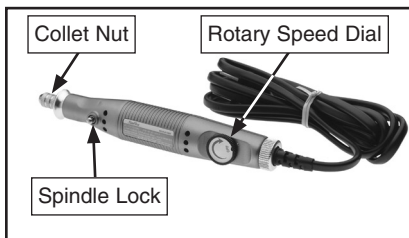

Figure 2. Model T10165 controls.
2. Press and hold the spindle lock to keep the spindle from rotating, then loosen the collet nut (see **Figure 2**).